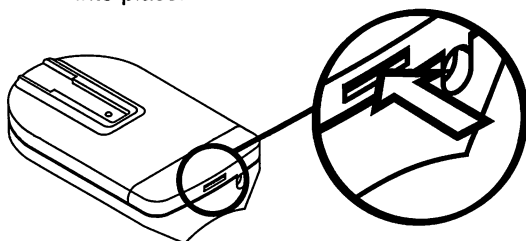

Fig. 2
Step 5-1 Turn Transmitter upside down Fig. 2.
- Gently push straight IN on Tab as shown Fig. 2.